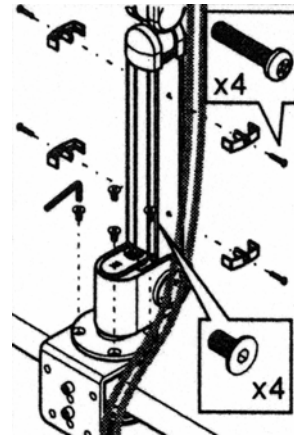

Figure 16: Mounting Arm Base to Clamp
- 8) Secure arm to the clamp with 4 flat head screws (Figure 16); tighten using the “L” shaped hex key.